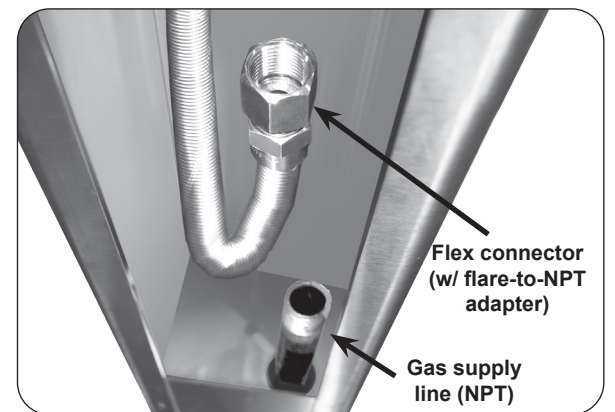

Fig. 25-2 Post interior detail
2. Verify that the gas supply line fits through the gas line clearance hole in the bottom of the post (see Fig. 25-2). The clearance hole is the larger of the two holes in the bottom of the post and is off center.